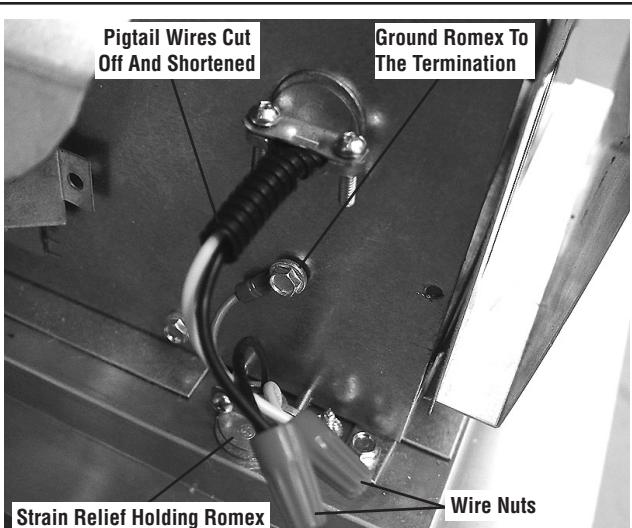

Figure 31 - Junction Box Cover Removed
4. Connect the black power supply wire to the **power outlet's** red pigtail lead and the white power supply wire to the **common** terminal of the outlet as shown in **Figures 31 and 32**.
- Refer to **Figure 31** to connect the three wires of the Romex cable to the termination. Ensure the ground ring terminal is grounded beneath a structural screw as shown. Attach the junction box cover to the termination with the screw previously removed.